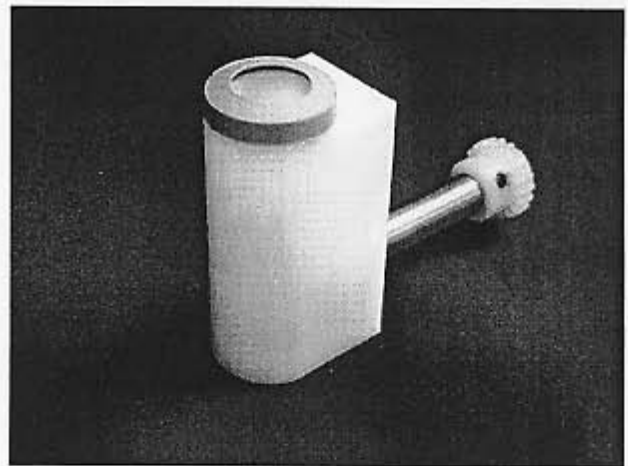
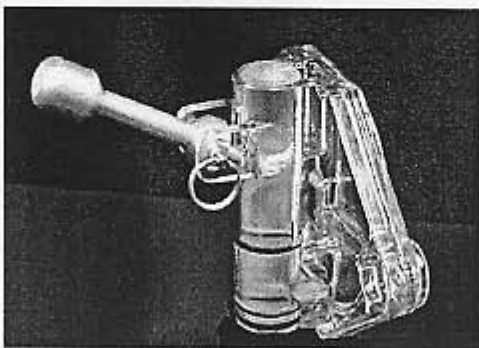

Fig. 6b
Fig. 5
5. Remove the front plate assembly (Fig. 5) by turning the black plastic knobs in a counterclockwise direction. Remove the mixing block pins, then pull the mixing block assembly (Fig. 6b) off of the syrup manifold attached to the front of the machine. The mixer drive assembly will remain attached to the mixing block, and the check valve assembly will remain on the syrup manifold attached to the machine face.